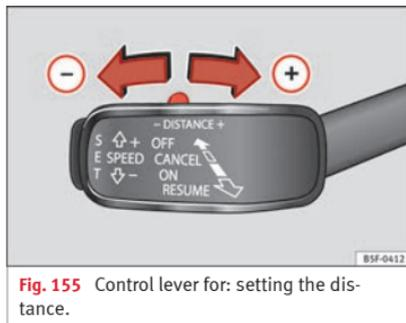

Fig. 155 Control lever for: setting the distance.
- To display the distance currently programmed, briefly press the rocking button **»» Fig. 155**.